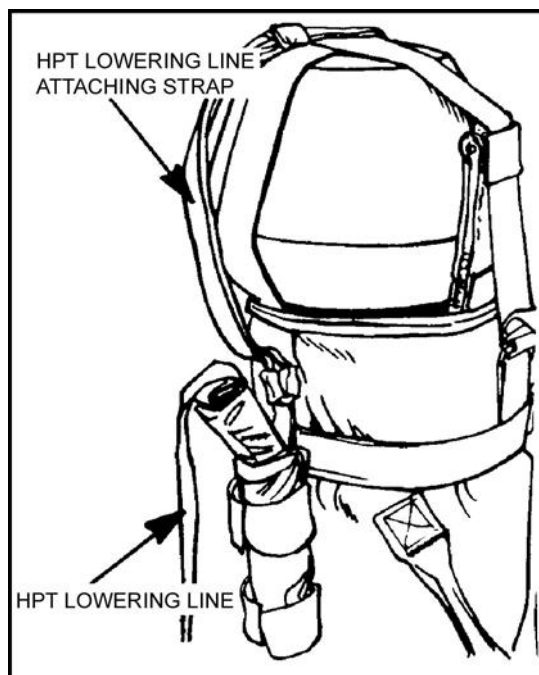

Figure 12-38. Lowering line.
(1) Attach the lowering line to the lowering line attaching strap by routing the looped end of the HPT lowering line through the looped end of the lowering line attaching strap (Figure 12-38). Route the lowering line through its own loop and pull tight, forming a girth hitch.